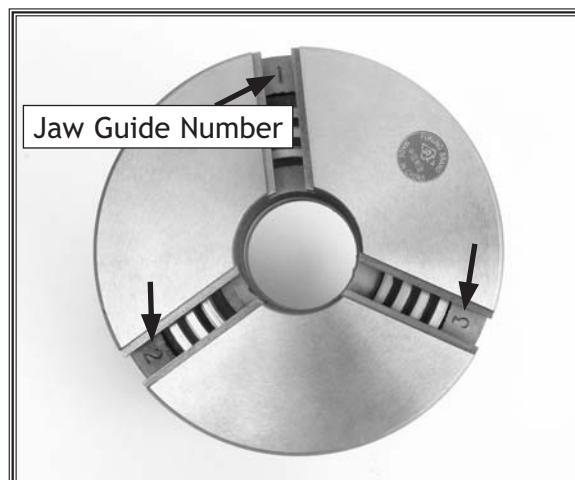

Figure 23. This chuck has jaw references on the inside of the jaw guide. (Chuck removed from spindle for clarity).
3. Locate the corresponding jaw guide on the chuck body (see Figure 23).